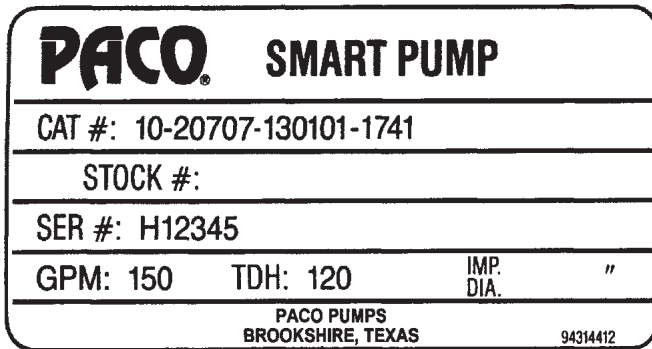

FIGURE 1a
- All PACO pumps are identified by Catalog and Serial Numbers. These numbers are stamped on the pump nameplate (Fig.1a) affixed to each pump volute casing, and should be referred to in all correspondence with the Company.